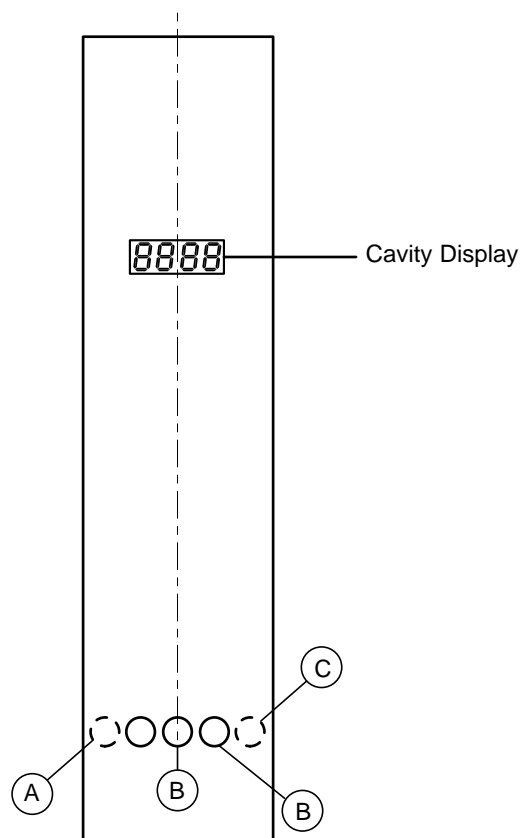

Fig. 4
- Three buttons, which for simplicity we will call A,B and C (see fig.4), are present towards the bottom of the control panel on all versions and models and can be operated externally. In some cases the buttons are visible because they indicate functions which are to be used by the operator, in other cases however they are not visible but can be recognised by the slight bulging in the control panel membrane. In models where there are more than three buttons in this position the central button is always to be considered "B" while the buttons immediately to the left and right of the central button are always the "A" and "C" buttons respectively.
- The various functions of the service buttons are indicated on the oven chamber temperature display (fig. 4) as described below.